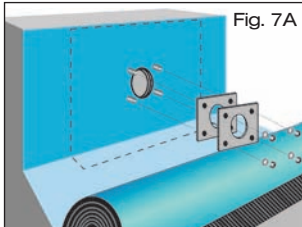

Fig. 7A
- 1.8 If a **plastic** vapour barrier sheet is used with the DN 50 version, place a compression seal over the vapour barrier sheet, and clamp with loose flange and included nuts (Fig. 7A). Tighten the enclosed nuts using an SW 17 open-ended or ring spanner, working criss-cross.